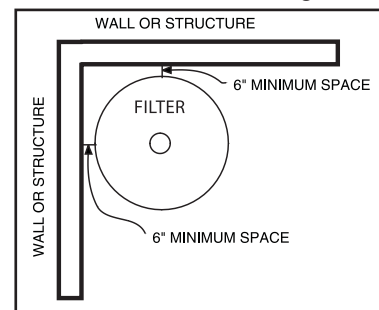

Figure 1.
3. Provide sufficient clearance (15cm) around the filter to permit visual verification that the clamp is properly installed, see Figure 1.